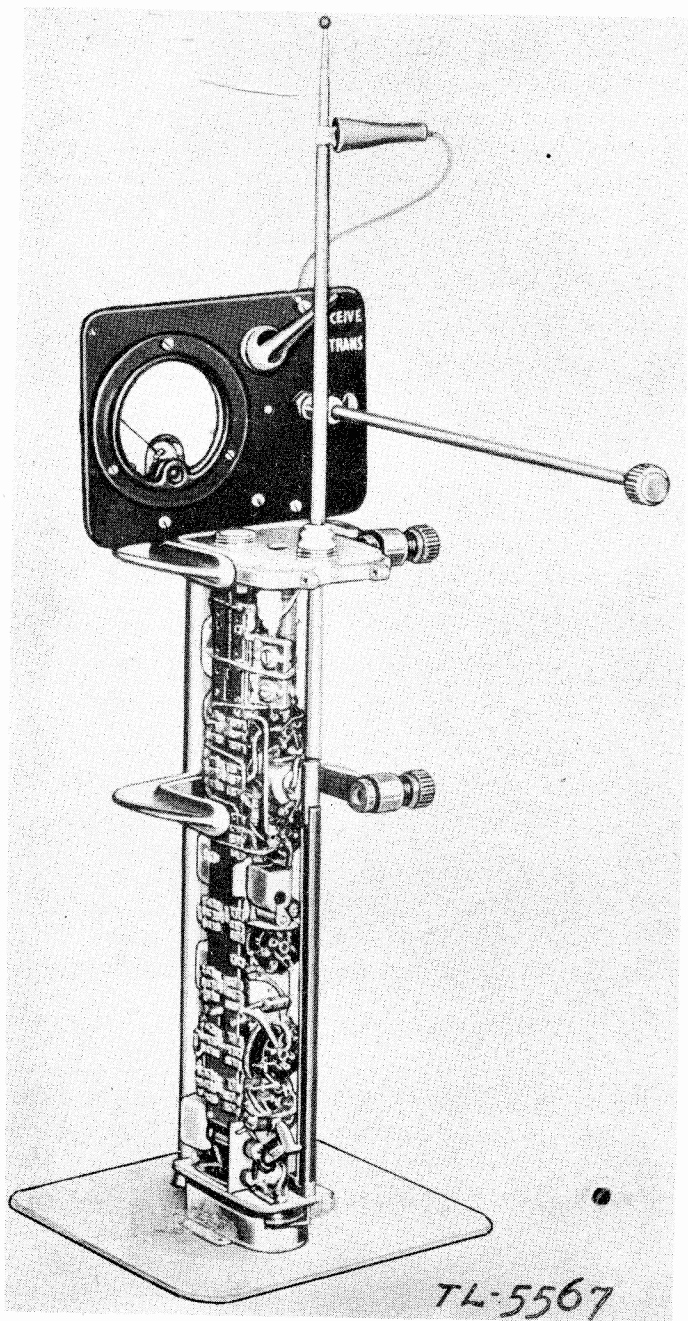

FIGURE 13.—Servicing set-up with test stand FT-252-(*).
61. Using signal generator.—a. Remove the chassis from the test case and with the mounting screw fasten it to the top cover of the housing. Place the chassis in the test stand in the same relative position as when in the test housing, and hold it there by gripping the housing cover with the upper clamp of the test stand. (See fig. 13.) Leave test unit I-135-(*). connected to the chassis by means of the harness.